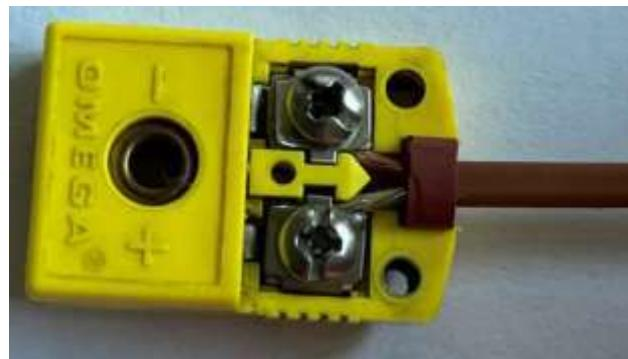

Figure 145
(10) Place wires in new connector under the contact washers with the wire with yellow insulation under the Chromel (+) contact washer and the wire with red insulation under the Alumel (-) contact washer as shown in Figure 145. Ensure wire insulation does not protrude under contact washer.
(11) Seat red grommet into grommet recess in connector body shown in Figure 145.